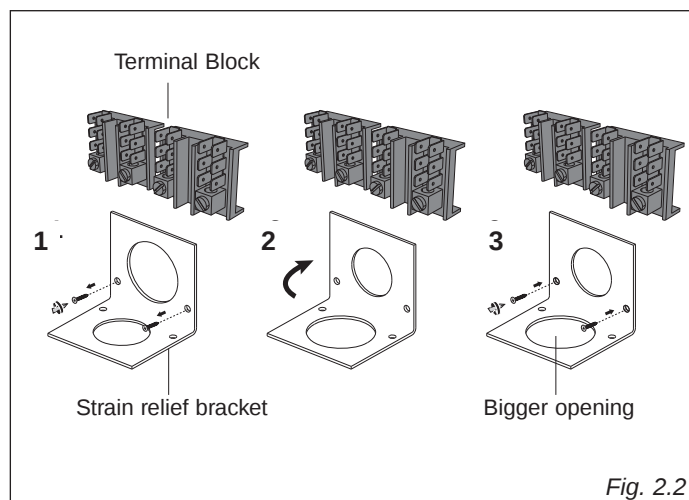

Fig. 2.2
- The strain relief bracket orientation must be so that the 1" 1/8 (28.6 mm) bigger opening is facing down (fig. 2.2). If not, the strain relief bracket orientation must be switched in order to accommodate for a permanent wiring connection: